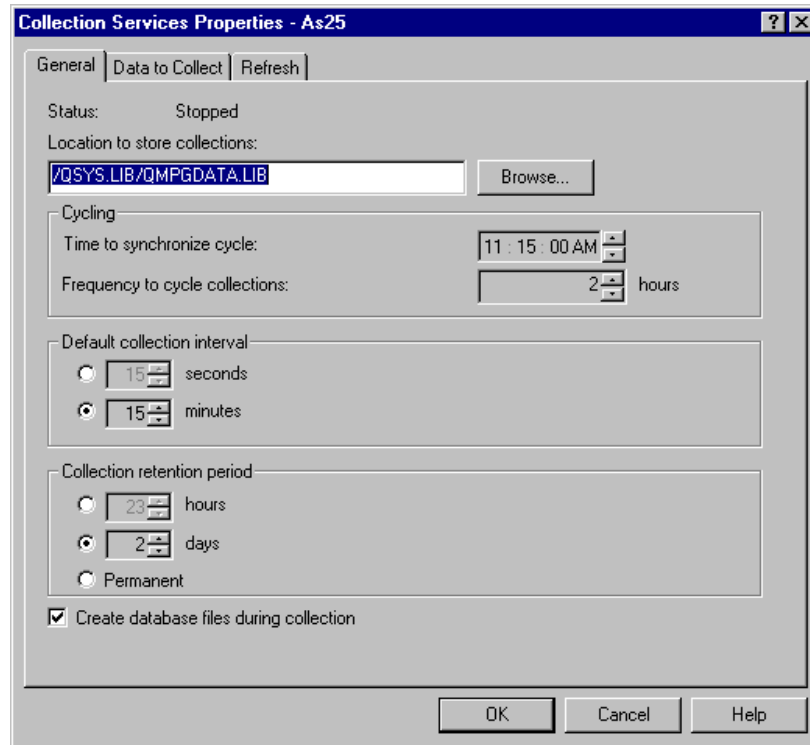

Figure 110. Collection Services Properties window: General page
3. Right-click **Collection Services**, and select **Properties**. The Collection Services – Properties window appears as shown in Figure 110 on page 137.